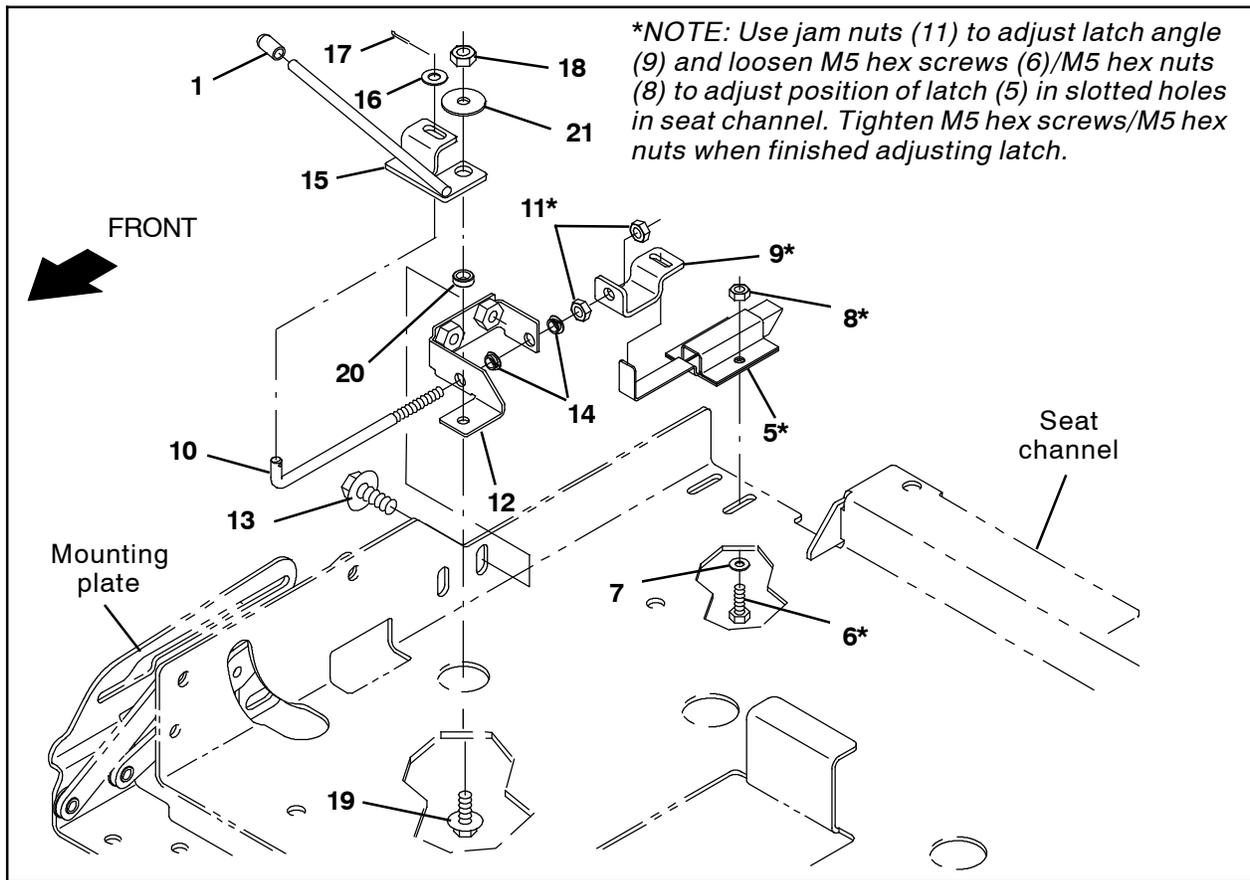

FIG. 5
6. Use two M5 hex screws (6), two flat washers (7), and two M5 hex nuts (8) to install the latch (5) onto the seat channel. (Fig. 5)
7. Install the yellow handle grip (1) onto the seat latch handle (15). (Fig. 5)
8. Press both nylon snap in bushings (14) into the latch bracket (12). (Fig. 5)
9. Insert the latch handle (10) through the nylon snap in bushings (14) pressed into the latch bracket (12) in the previous step. (Fig. 5)
10. Thread one hex jam nut (11) onto the latch handle (10). (Fig. 5)
11. Insert the latch angle (9) onto the latch handle (10) and thread the remaining hex jam nut (11) onto the latch handle to secure the latch angle. (Fig. 5)
12. Orient the notch in the seat latch handle (15) onto the latch handle (10) and use one SEMS M6 hex screw (1), one sleeve (20), one flat washer (21), and one M6 hex nut to install the seat latch handle (15) onto the latch bracket (12). (Fig. 5)
13. Use one cotter pin (17) and one flat washer (16) to secure the latch handle (10) inside the seat latch handle (15). (Fig. 5)
14. Install the latch angle (9) onto the latch (5) and use two SEMS M8 hex screws (13) to install the seat latch assembly assembled in the previous steps onto the seat channel. (Fig. 5)
15. Close the seat channel onto the machine and adjust hardware so the latch (5) secures the seat channel closed and allows the seat channel to be opened/raised when the handle is pulled to release the seat channel. (Fig. 5)